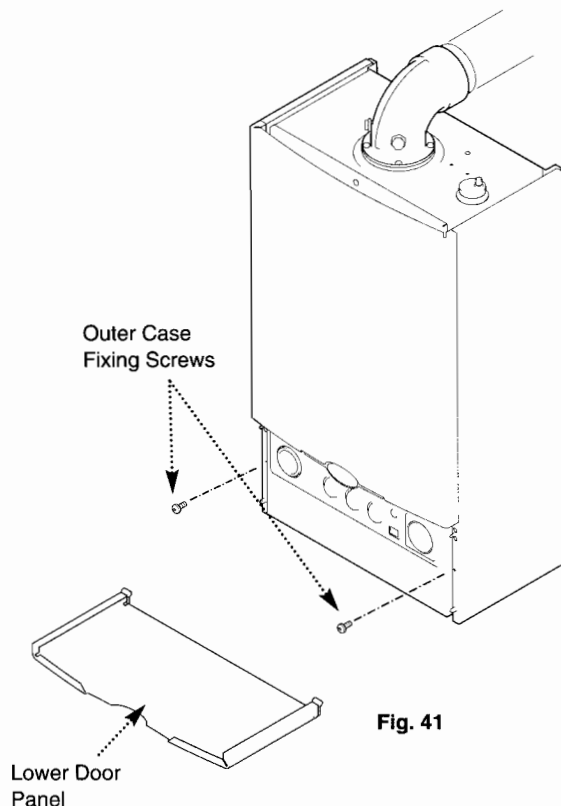

Fig. 41
2. Insert the two fixing screws into the sides of the chassis (Fig. 41).
4. Locate the lower door panel on to its hinges and gently hinge up (Fig. 41).